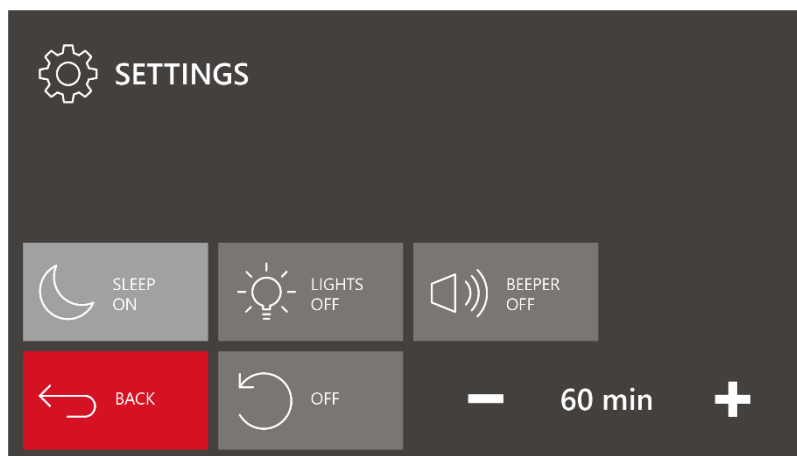

Fig. 24 SETTINGS menu screen
**Settings** – used for basic configuration of 3DGence DOUBLE P255 printer (fig. 24).
Settings - used for configuration of 3DGence DOUBLE P255 printer. The working mode menu corresponds to the idle mode menu (fig. 24).